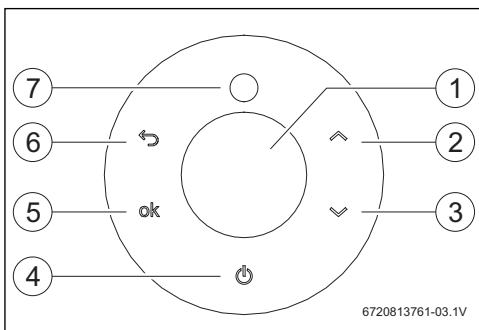

Fig. 39 Touch control display
- ▶ Touch and hold symbol  for more than 3 sec. The LCD display shows the selected temperature. When the burner is on, the display shows symbol  (Fig. 39, [7]).